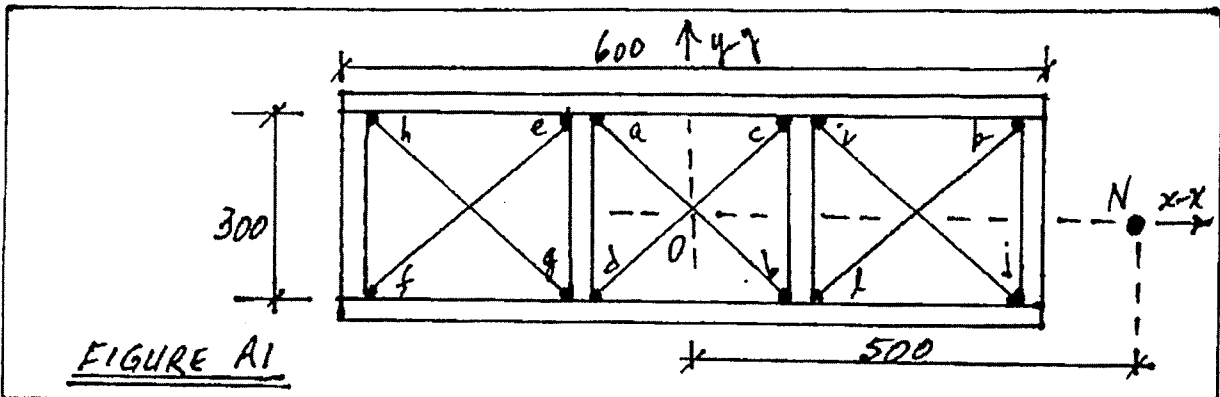

FIGURE A1
- A1. The steel cross-section shown in Figure A1 is fabricated from 25 mm G40.21 350W steel plates. Determine the section moments of resistance about the two centroidal axes x-x and y-y. (Ignore all bracings ab, cd, etc.).